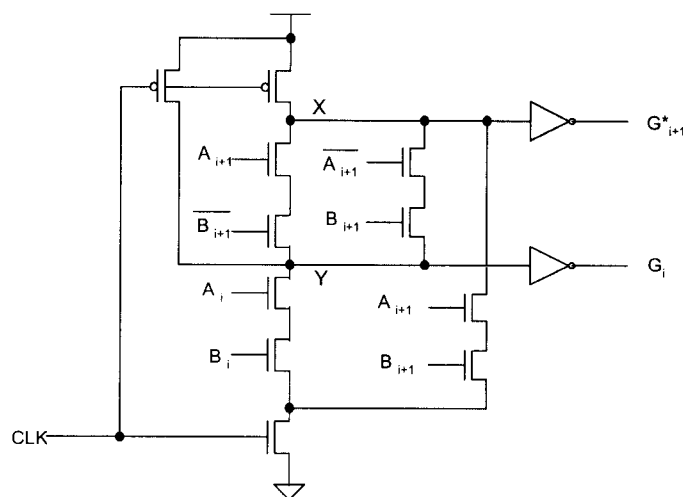

Figure 3.2
- b) Figure 3.2 shows the implementation of a circuit to produce the signals G_i and G_{i+1}^* . This circuit uses a variation of Domino Logic called Multiple-Output Domino Logic (MODL). Based on the principle of Domino Logic, explain how this circuit evaluates G_i and G_{i+1}^* .